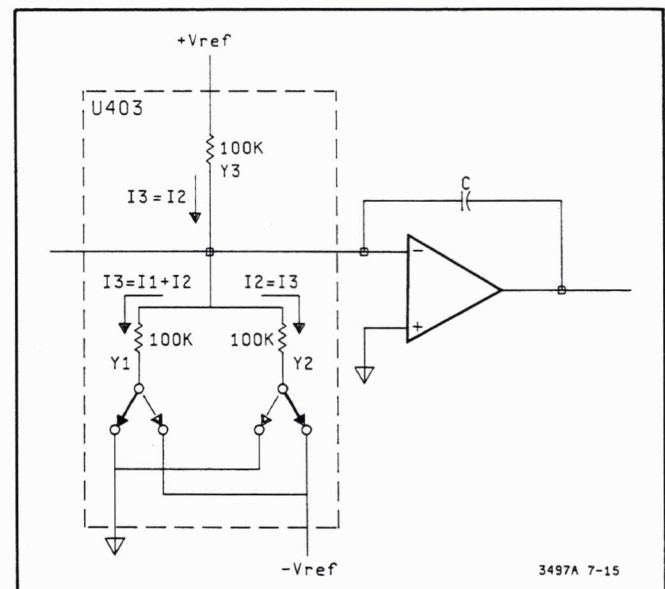

Figure 7-15. Slope S+0 and S-0 Generation
7-166. Slope S+0 and S-0 Generation. Refer to Figure 7-15. Note that one side of a 100K ohm resistor (Y1 path) is connected to ground and the other side is connected to the summing node. Since the 100K ohm resistor from +Vref (Y3 path) and the 100K ohm resistor from -Vref (Y2 path) are also connected to the summing node, no current flows from the integrator capacitor (C). This is because the resistance value of path Y2 and Y3 is the same and makes the current value of paths Y2 and Y3 the same (but opposite polarity). This is true for both slopes S+0 and S-0. The only difference is that paths Y1 and Y2 are switched when the slopes are switched (Y1 to ground and Y2 to -Vref, or Y2 to ground and Y1 to -Vref).
used to develop the S-4, S+4, etc., currents, and the integrator circuitry. While referring to Figure 7-15, note that +Vref is connected to one side of a 100K ohm resistor and -Vref to one side of another 100K ohm resistor. The other ends of the resistors are connected to each other and also to the integrator. If the absolute values of the +Vref and -Vref voltages are exactly equal and the resistors are also equal, the current going into the integrator is exactly zero. Since the resistors and reference supplies are not exactly equal (they are, however, very stable), a small offset current is generated. This current plus the offset developed by the integrator itself, develops an offset voltage at the output of the integrator. This offset voltage can cause inaccuracies. The A/D Autozero circuitry compensate for that offset voltage.